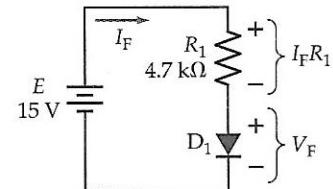

Figure 2-9 Circuit for Ex. 2-3.
A silicon diode is used in the circuit shown in Fig. 2-9. Calculate the diode current.
- 2-3.1 Calculate the new level of diode current in the circuit in Fig. 2-9 when D_1 is replaced with two series-connected silicon diodes.